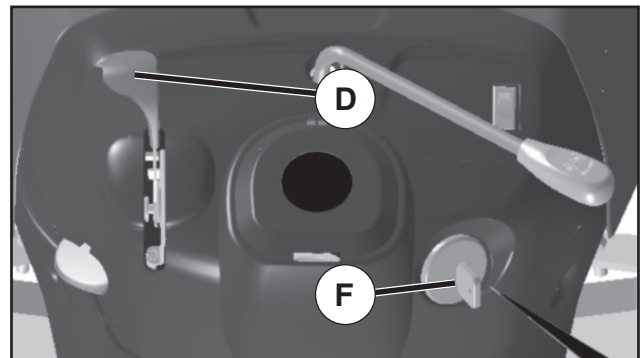

Fig. 8
- Move throttle control (D) between half and full speed (fast) position.
- Turn ignition key (F) to "STOP" position and remove key. Always remove key when leaving tractor to prevent unauthorized use.
### TO USE THROTTLE CONTROL (D) (See Fig. 8)